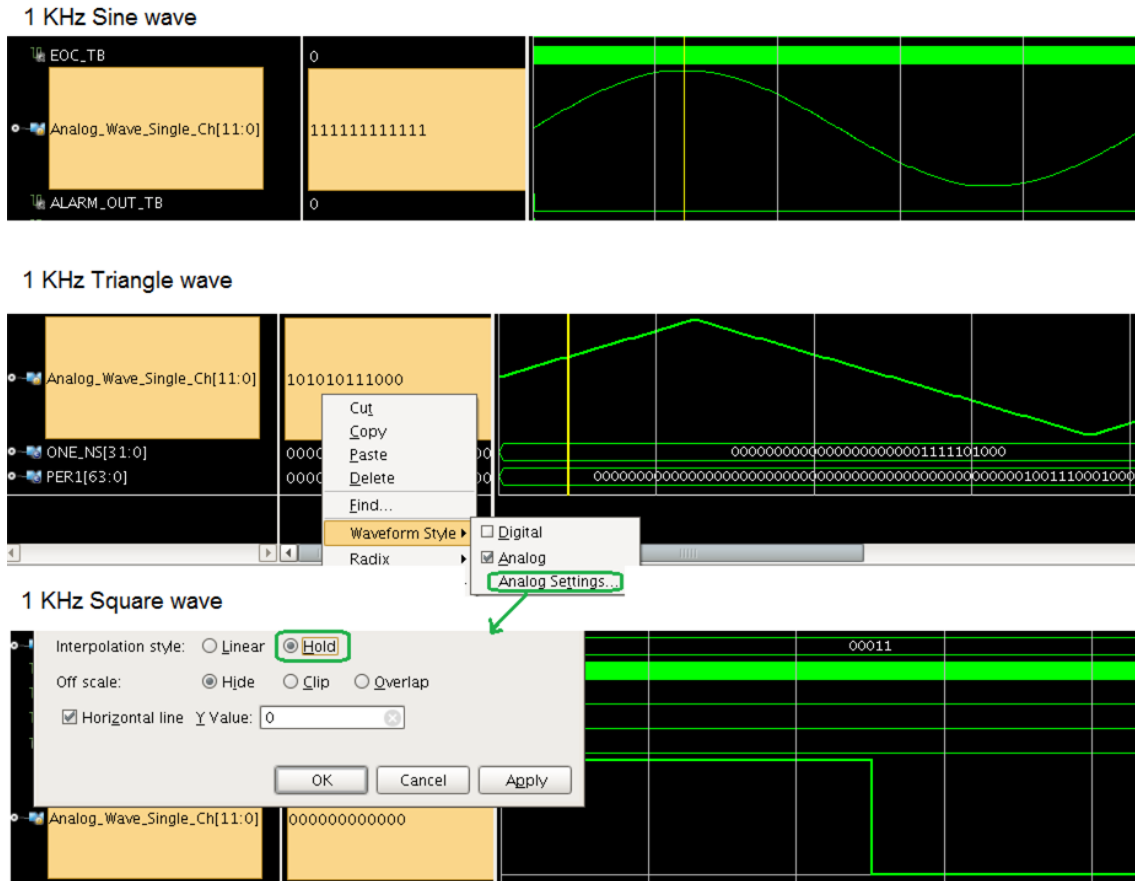

Figure 4-5: Waveform Type
- **Waveform Type** – Choose CONSTANT, SINE, TRIANGLE, or SQUARE wave as stimulus on external channel analog inputs. See Figure 4-5.